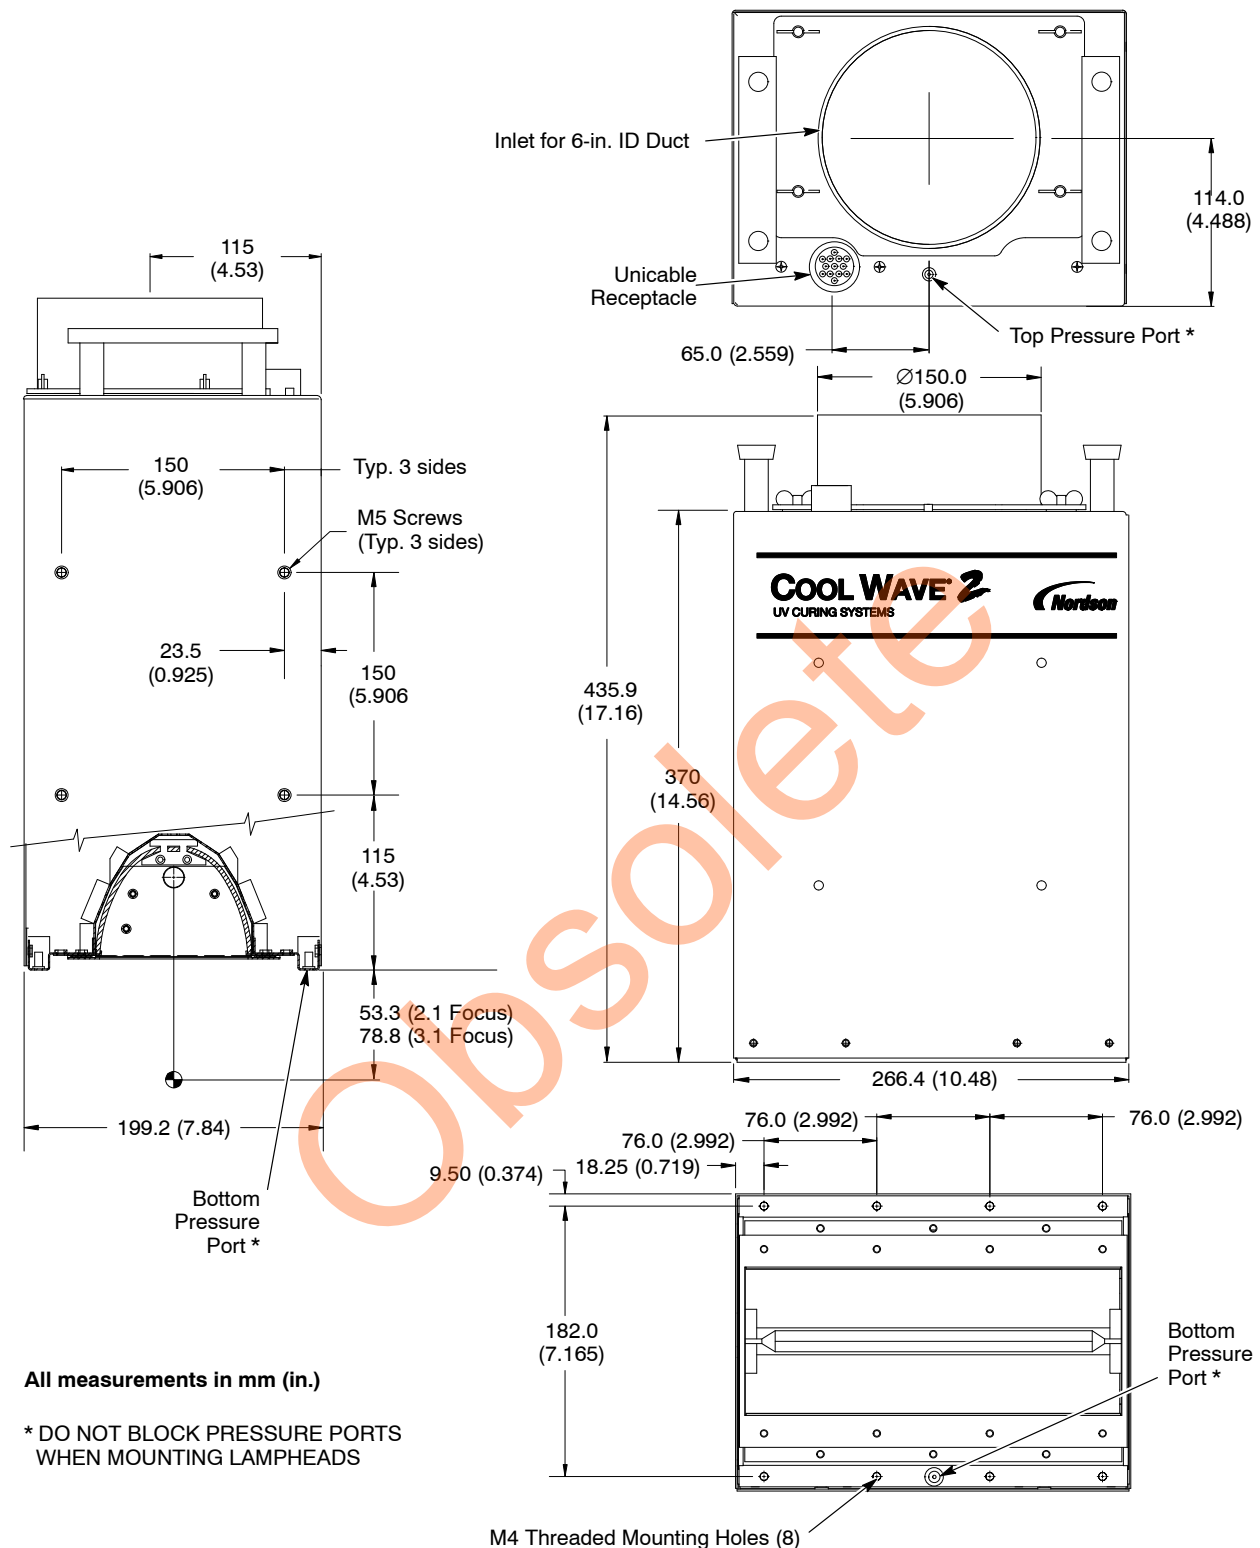
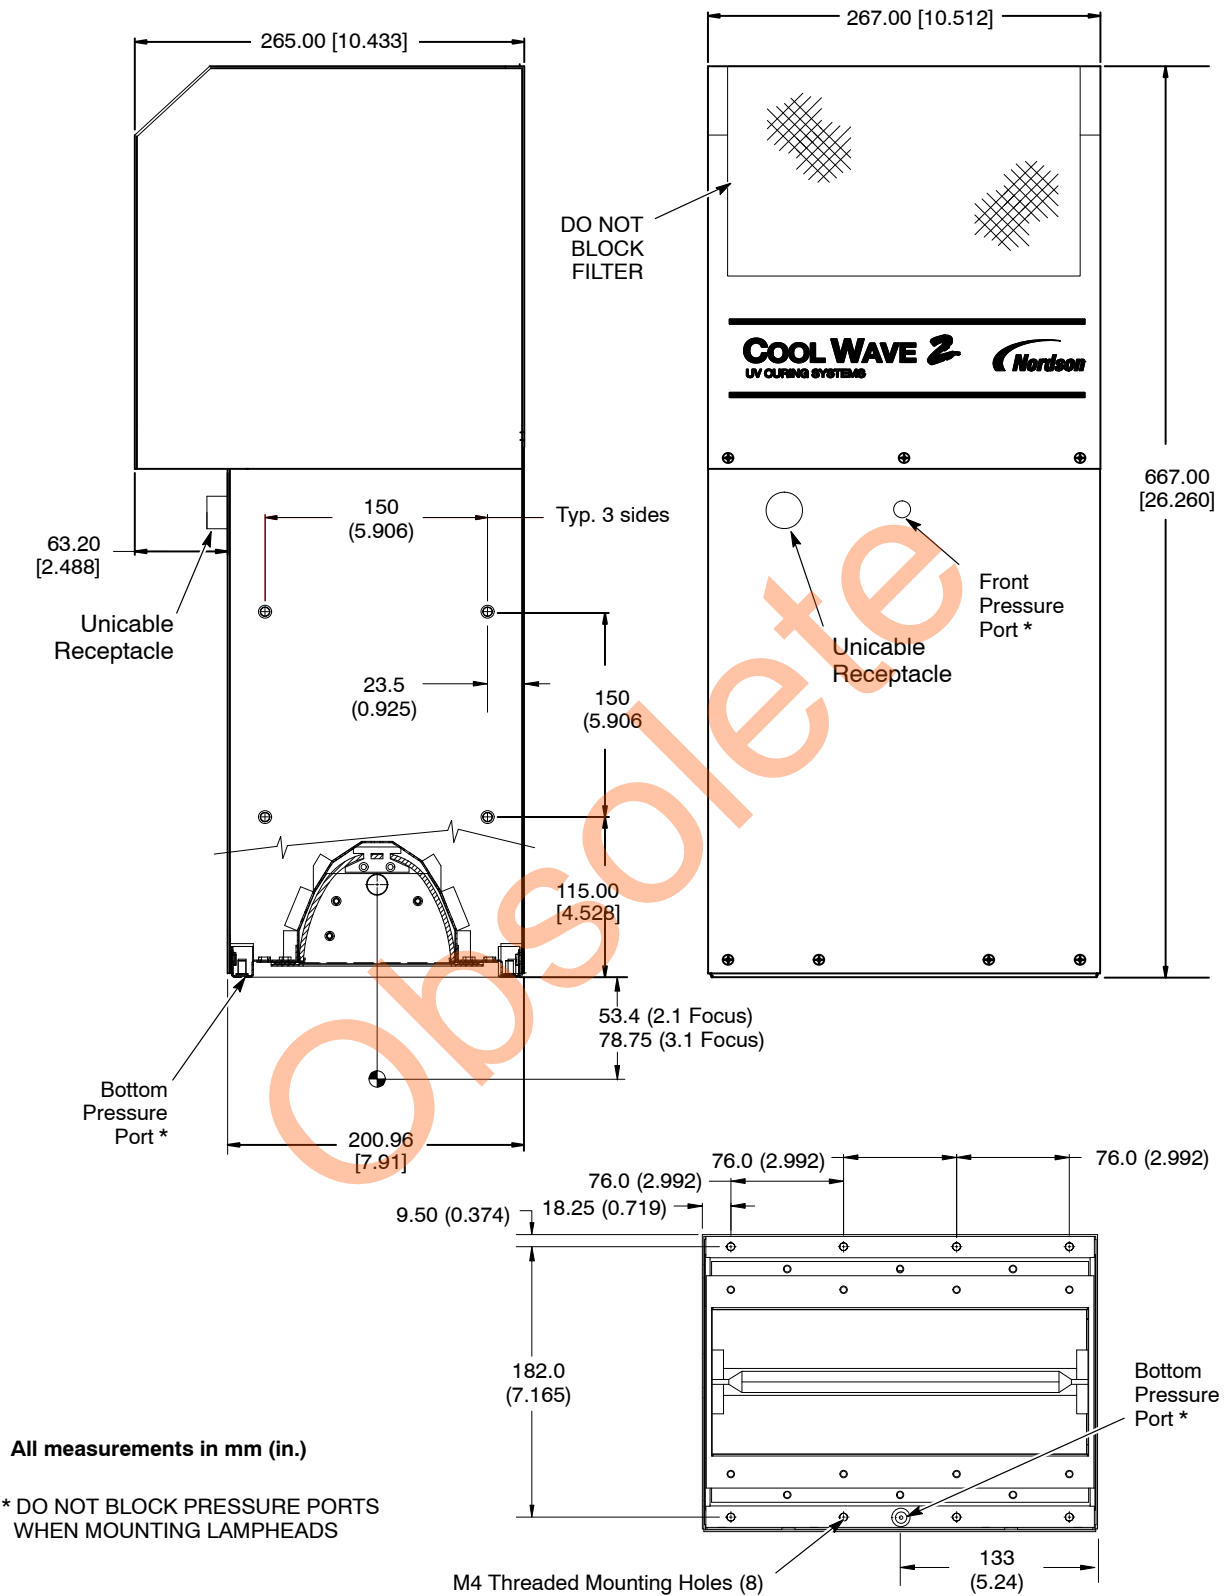
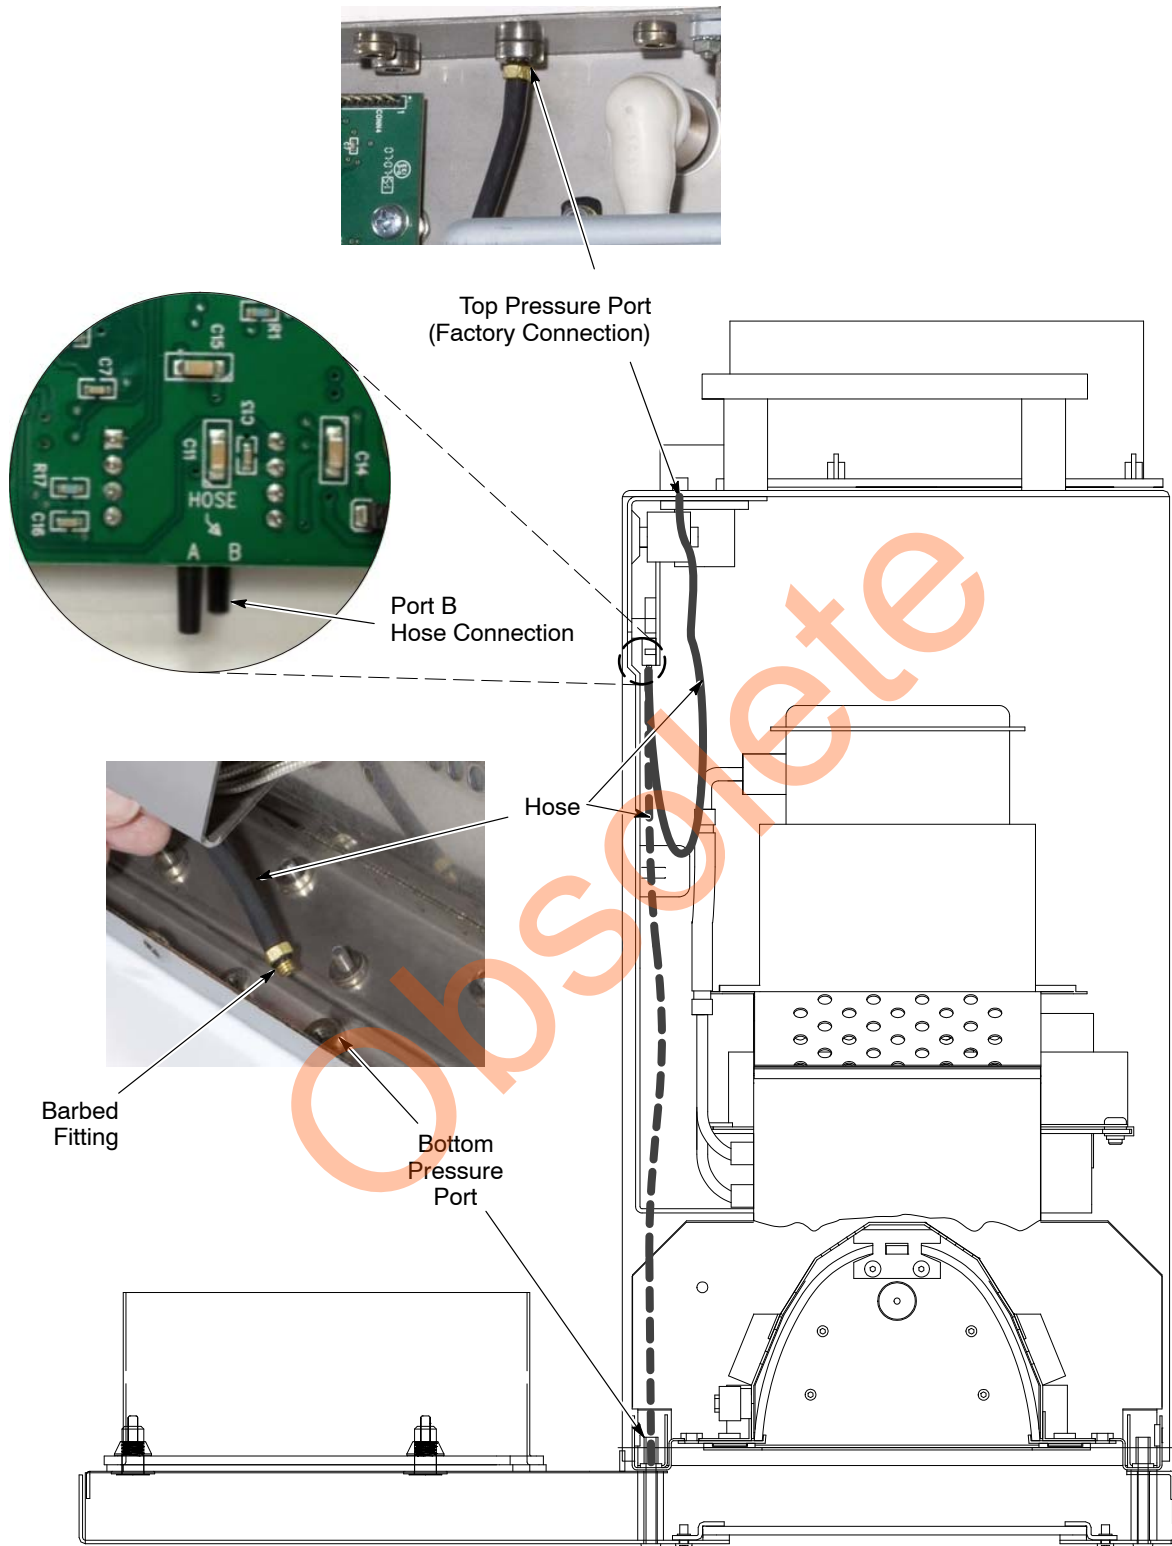

Figure 3-9 Lamphead Dimensions – External Blower Version
Figure 3-10 Lamphead Dimensions – Internal Blower
Figure 3-13 Pressure Port Connections – External Blower Version
Figures 3-9 and 3-10 provide the physical dimensions of the CoolWave 2 lampheads. See page 2-5 for focal lengths. Install lampheads with focus reflectors with the base positioned as follows:
See Figures 3-13 and 3-14. The lamphead pressure sensor on the light detector board is connected by a hose to atmosphere at the top/front or bottom pressure port. (See Figures 3-9 and Figure 3-10 for the location of the pressure ports on internal and external blower versions.) **The hose must be connected to Port B on the board, as shown.**
1. See Figures 3-13 and 3-14. Remove the lamphead cover.